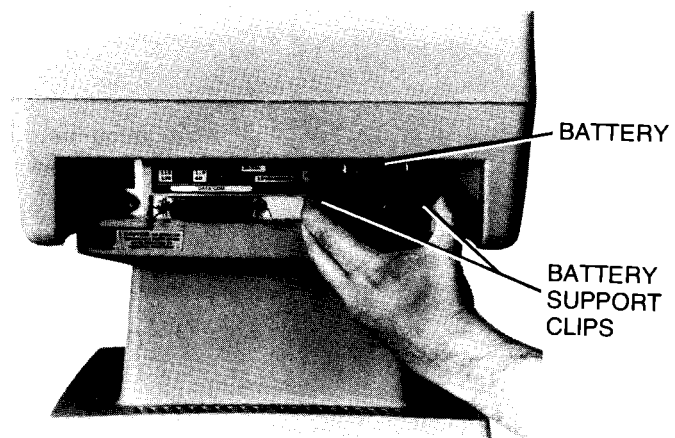

Figure 7-12. Battery Removal
3. Grasp and squeeze battery support clips and pull it downward for removal. (See figure 7-12).